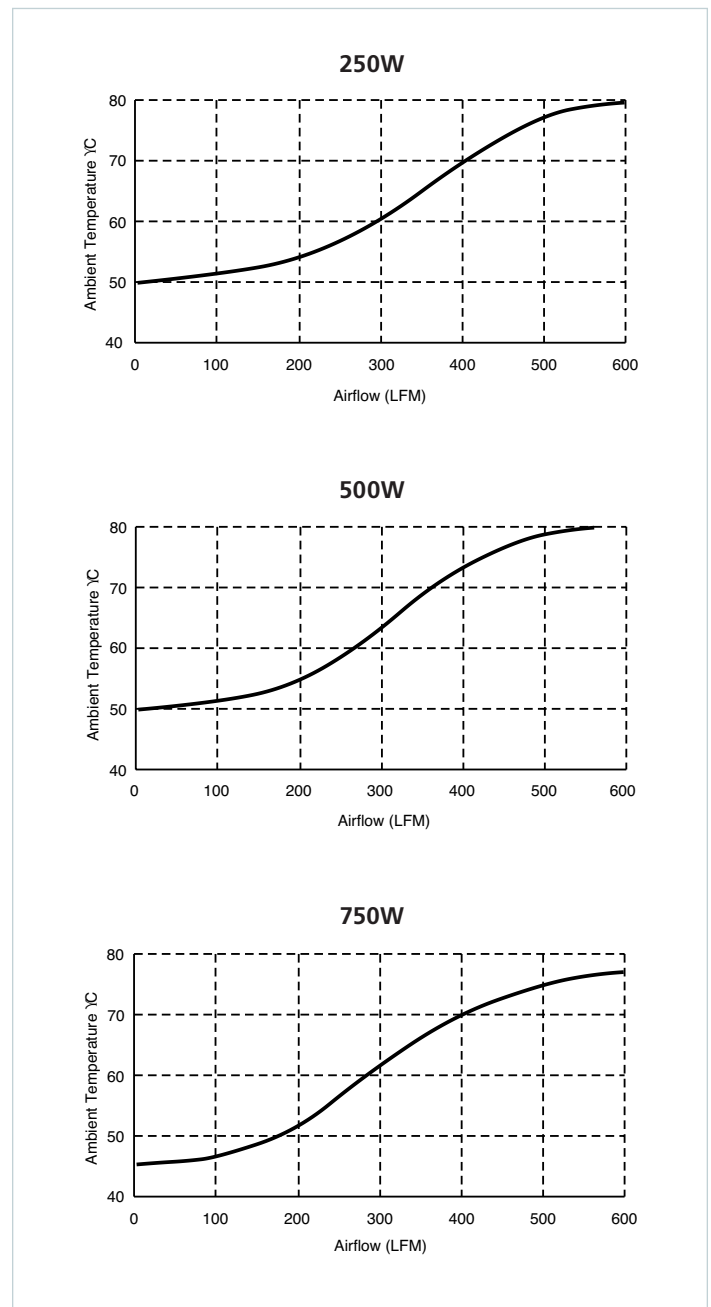

Figure 16.2 — Maximum ambient temperature vs. airflow (LFM) over cover (full load, 90V_{AC} input, chassis mount)
- Ambient temperature must be less than 50°C in free air. Temperature may exceed 50°C with moving air. (refer to de-rating curves in Figure 16.2)